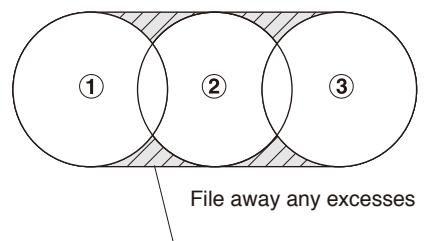

Fig. 24
Drill oblong hole in the order of ①, ②, ③. For the steps ② and ③, use manual feed and take care so that the cutter may not be fed into the workpiece with too much force. If automatic feed is used, damage to the cutter or unexpected accident may result. Use a file to take off any stock that is left unmachined. Spacing between each step of drilling operations should be so arranged that the Pilot Pin will always hit the sold material yet to be machined. (Fig.24)